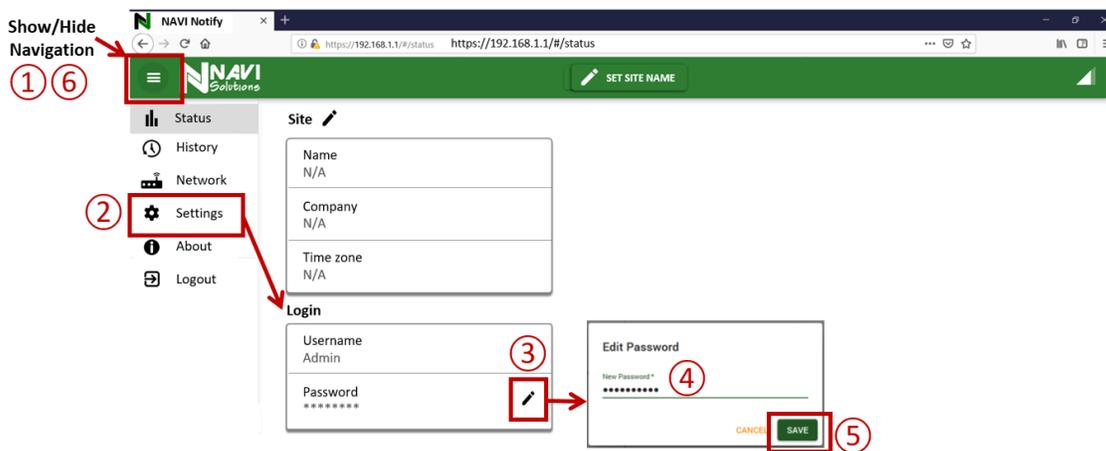

Figure 4
- Once you have logged in, the Notify™ Status Page in Figure 4 will be displayed to configure the Notify™ Processor. Begin by clicking the Navigation Bar, Settings, Password edit icon then change the temporary password and [SAVE]. Record and save the new password. Click the Navigation Bar to close the Panel and return to the Status Page.